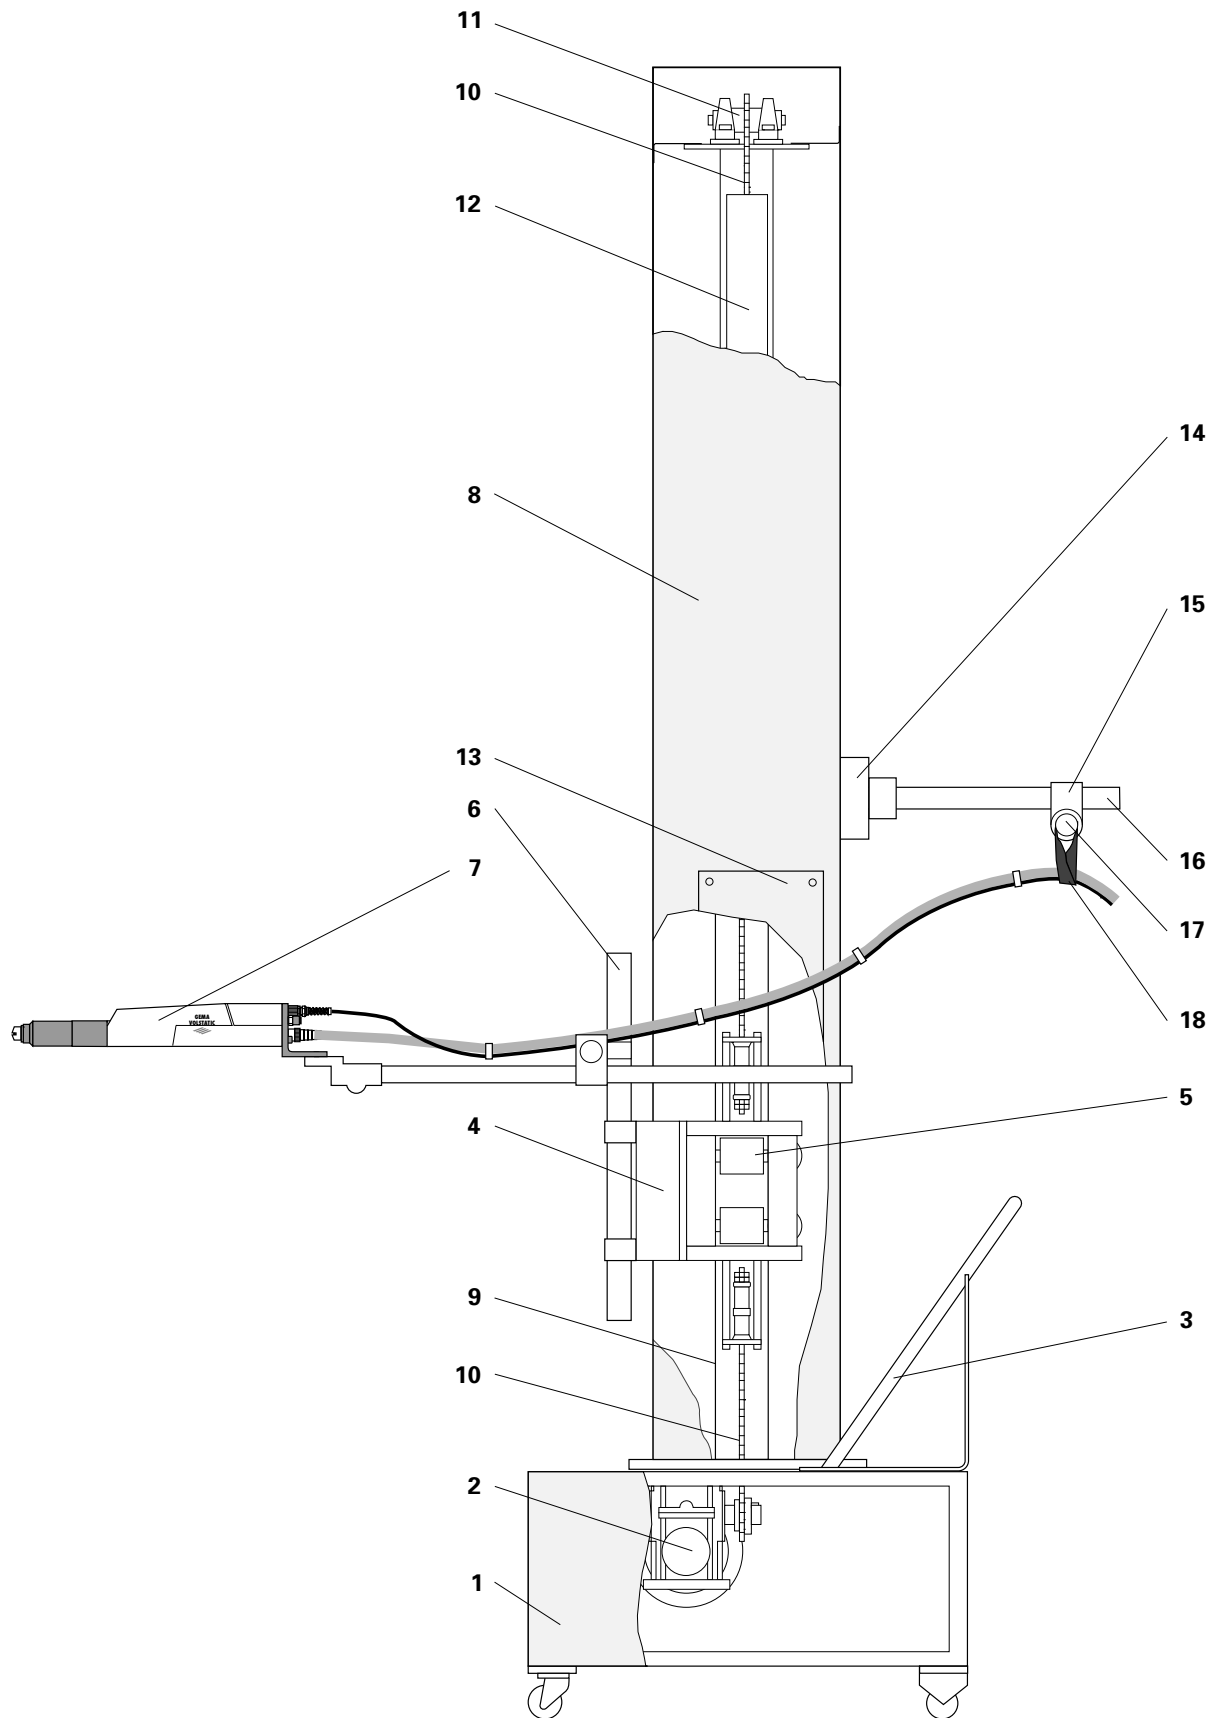

Figure 1
1. Remove the handrail (**3** - Fig. 1).
2. Unscrew the gun carriers (**6** - Fig. 1).
3. Remove the column panels (**8** - Fig. 1).